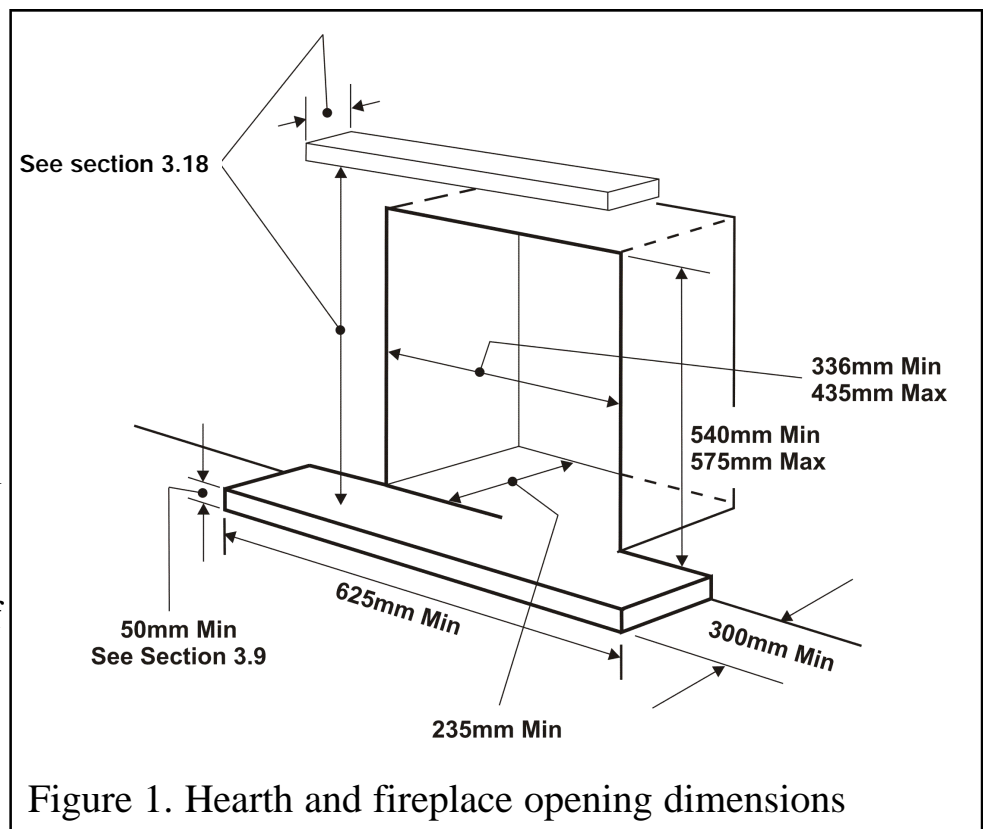
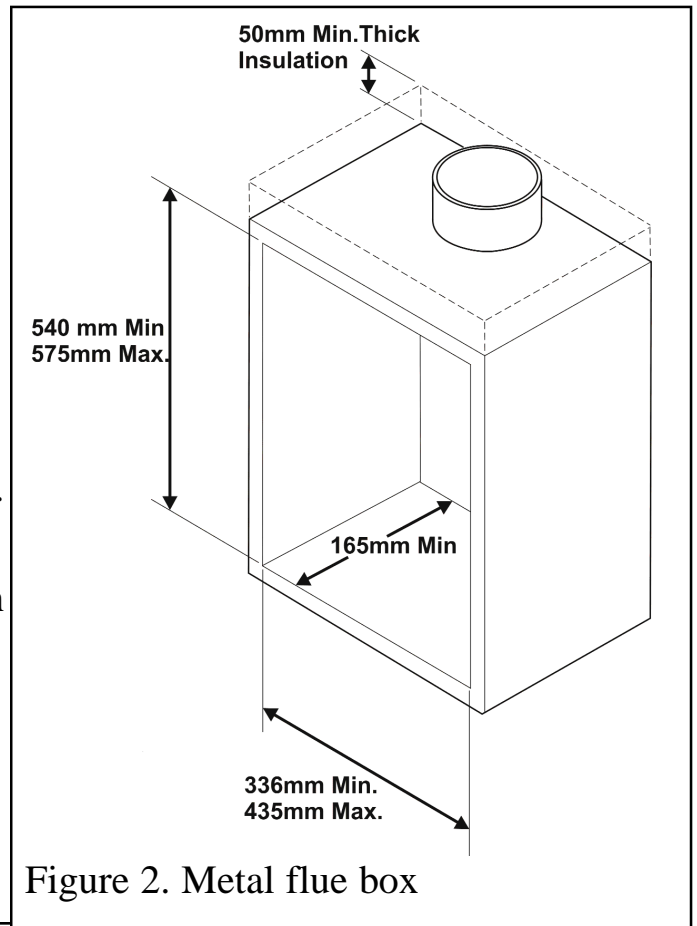

Figure 1. Hearth and fireplace opening dimensions
Figure 2. Metal flue box
- It is recommended that a hearth should be installed as in figure 1.
Incombustible mineral wool insulation of not less than 50mm thickness must be applied to the top surface of the firebox (See figure 2) and it must stand on a non-combustible hearth (See figure 1).
The appliance must not stand on combustible materials or carpets (See figure 1).
The whole of the top surface of the metal flue box must be covered with a minimum 50mm layer of mineral wool or equivalent insulation (See figure 2).